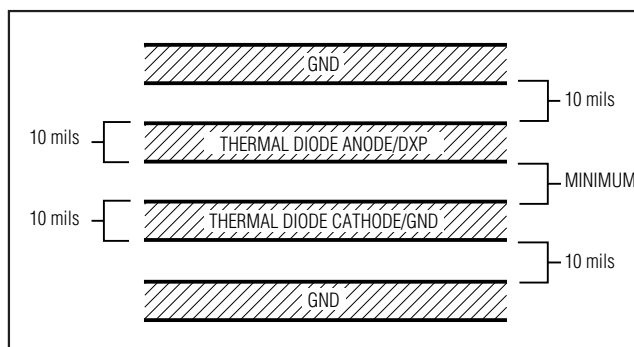

Figure 4. Recommended DXP PC Traces
- 4) Route the thermal diode traces in parallel and in close proximity to each other, away from any higher voltage traces, such as  $+12\text{VDC}$ . Leakage currents from PCB contamination must be dealt with carefully since a  $20\text{M}\Omega$  leakage path from DXP to ground causes about  $+1^{\circ}\text{C}$  error. If high-voltage traces are unavoidable, connect guard traces to GND on either side of the DXP trace (Figure 4).
- 7) Use wide traces. Narrow traces are more inductive and tend to pick up radiated noise. The 10-mil widths and spacing recommended in Figure 4 are not absolutely necessary, as they offer only a minor improvement in leakage and noise over narrow traces. Use wider traces when practical.